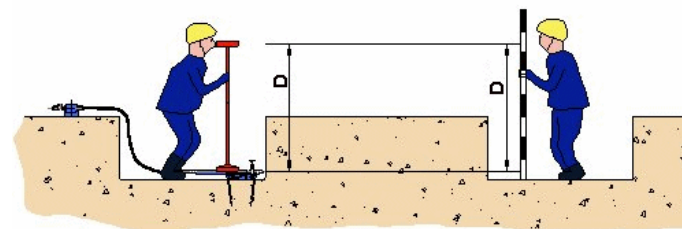

Figure 25- Sighting Impact Mole Equipment
8. This mark is the height of the scope plus 100mm (the 100 mm allows for the height of the cradle from the bottom of the excavation). Refer to Figure 25.
10. This mark is the height of the scope to the centre of the impact mole. Refer to Figure 25.
Note: The impact mole is ready to be launched. The impact mole should be aligned to give the maximum clearance from other underground plant, but not less than 250 mm clearance for bore lengths up to 8 metres- refer to Figure 25- Sighting Impact Mole Equipment.